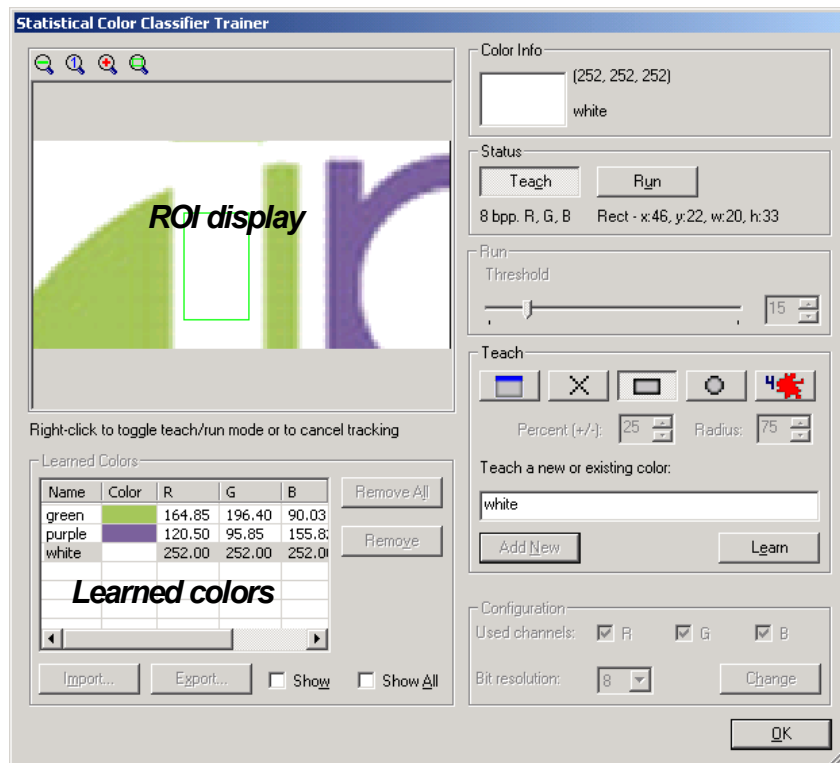

Figure 68. Statistical Color Classifier Trainer
The Trainer window (Figures 68 and 69) creates or modifies the Color Classifier file. The file format is defined by the algorithm. The Spot meter creates a Statistical classifier. The Color Map and Color Presence algorithms create a Block classifier.
- The Statistical Color Classifier (Figure 68) allows one color for each label or name, and allows a different Threshold value for each trained color.